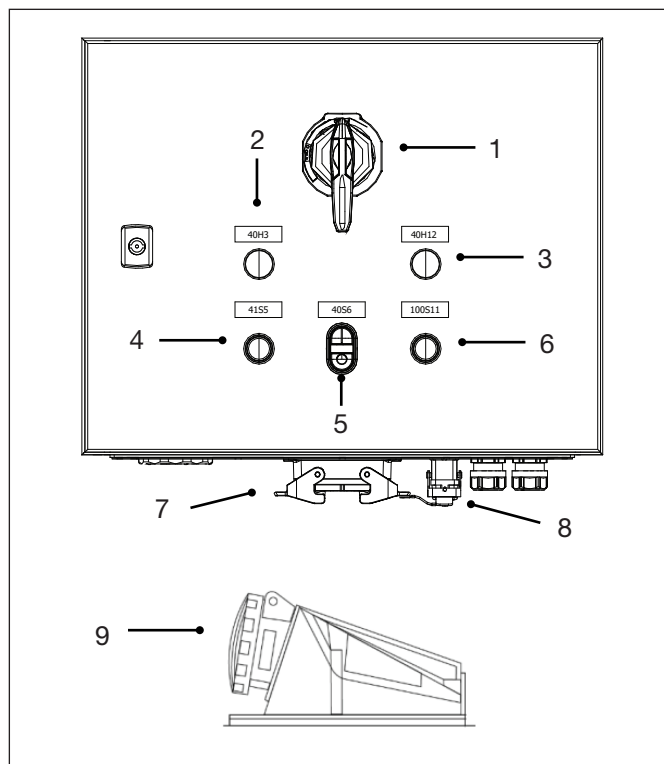

Figure 2: Electric panel and plug
Turn the motor on using the following steps (see Figure 2 and Figure 4):
1. Turn the main switch (Figure 2, Nr 1) to the "On" position located on the electrical cabinet, ensure the Power On Led (Figure 2, Nr 2) activates.
3. Press the reset button to reset the security system after the emergency button has been de-activated (Figure 2, Nr 4)
4. Press the motor start button for 3 seconds (Figure 2, Nr 5)
5. Press the motor start button for 3 seconds (Figure 2, Nr 3).
With the motor switched off (see Figure 2 and Figure 4):
2. Push decompress button on the electric cabinet (Figure 2, Nr 6.)